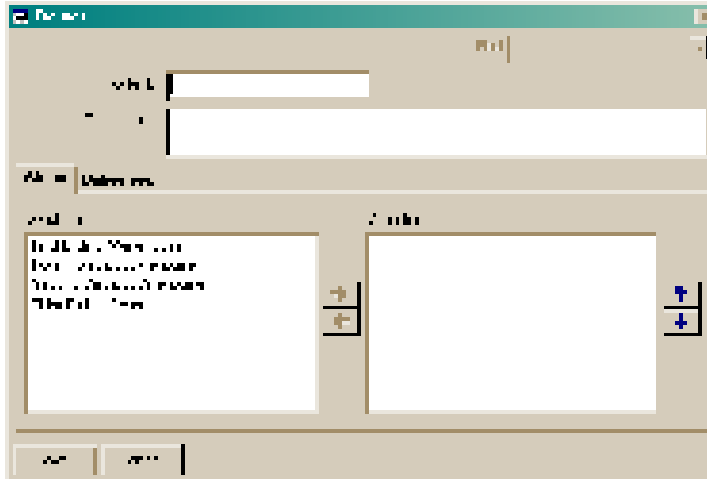

Figure 8.15 Blank Routes form.
1. Click Add. A blank Routes form (Figure 8.15) is displayed.